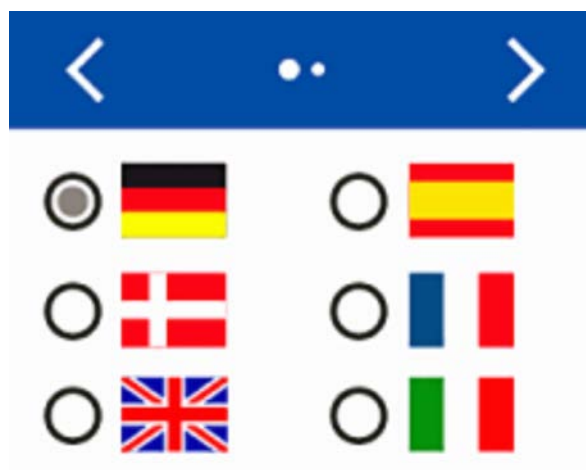

Fig. 75: Language selection screen 1
The 'Language' screen (Fig. 75) allows you to select a language.
- ⇒ The first 'Language selection' screen (Fig. 75) displays.